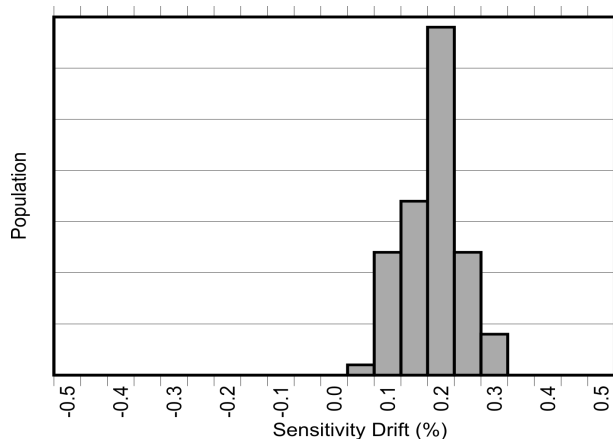
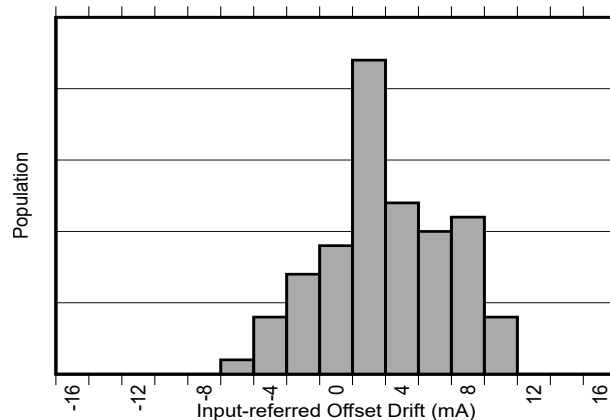

Figure 8-3. Sensitivity Error Drift After AEC-Q100 High Temperature Operating Life Stress Test
Figure 8-4. Input-Referred Offset Drift After AEC-Q100 High Temperature Operating Life Stress Test
In addition to large thermal drift, typical magnetic current sensors suffer an additional 2% to 3% drift in sensitivity due to aging over the lifetime of the device. The same proprietary compensation techniques used in the TMCS1126-Q1 to reduce temperature drift are also used to greatly reduce lifetime drift due to aging from stress and environmental conditions especially at high operating temperatures. As shown in the Electrical Characteristics, the TMCS1126-Q1 has industry leading lifetime sensitivity drift realized after Highly Accelerated Stress Tests (HAST) at 130°C and 85% relative humidity (RH) during standard three lot AEC-Q100 qualifications. Low sensitivity and offset drift within the bounds specified in the Electrical Characteristics are also observed after 1000 hour, 125°C high temperature operating life stress tests are performed as prescribed by AEC-Q100 qualifications. These tests mimic typical device lifetime operation, and show device performance variation due to aging is vastly improved compared with typical magnetic current sensors. Figure 8-3 and Figure 8-4 show the sensitivity and offset drift after a 1000 hour, 125°C high temperature operating life stress test as specified by AEC-Q100. Device operational performance varies over the lifetime of the device. This test mimics